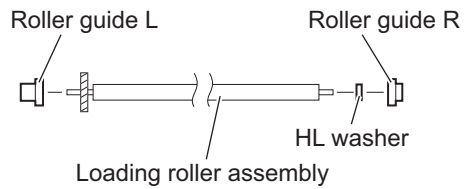

Fig.21
- (7) Remove the roller guide R, HL washer and roller guide L from the both ends of the loading roller assembly. (See Fig.21.)